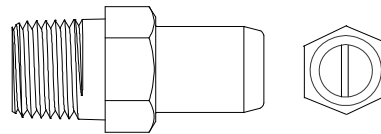
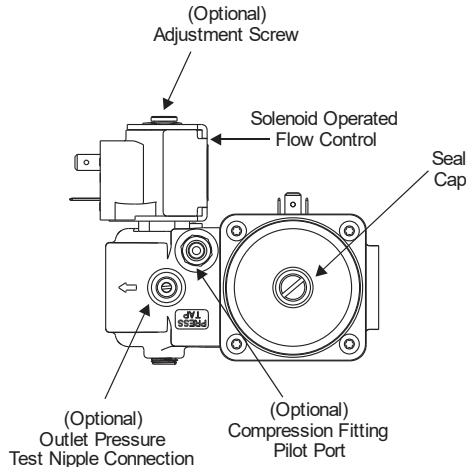

Figure 3: Y99AX-1 (1/8-27 NPT) Pressure Test Fitting
Figure 4: Underside of Valve with Bottom Adjust Regulator
- Connect the pilot tubing (when necessary) to the threaded pilot connection on the underside of the valve body (Figure 4) and run the tube to the pilot burner within the appliance. Connect the pilot tube to the valve with an optional compression fitting.
- Optional lo flow adjusting screw in the end of the solenoid (see Figure 4). Adjust clockwise to restrict the flow and counter clockwise to open the flow. To prevent damage to the seal, do not over tighten when turning clockwise.
- If you desire to measure the outlet pressure, use the bottom cast pressure test fitting (see Figure 4) or use the Y99AX pressure test fitting (see Figure 3) and an approved pipe joint compound on the male threads and replace the marked pressure tap plug, which is optional on the inlet or outlet of the valve body. Screw the fitting into threaded port of the valve, which replaces the pressure tap plug.
1. Optional Lo flow adjusting screw in the end of the solenoid (see Figure 4). Adjust clockwise to restrict the flow and counter clockwise to open the flow. To prevent damage to the seal, do not over tighten when turning clockwise.
2. If installing a valve with a pressure regulator, set the valve to the desired outlet pressure. See the Regulator Adjustment section for specific adjustment procedures. After setting the valve outlet pressure, ensure that the Leak-limiting seal cap is replaced (see Figure 4).
To adjust the outlet pressure, remove the leak-limiting seal cap to expose the adjusting screw (see Figure 4). Turn the screw (using a suitable screwdriver) in a clockwise direction to increase or in a counterclockwise direction to decrease the outlet pressure of the valve.